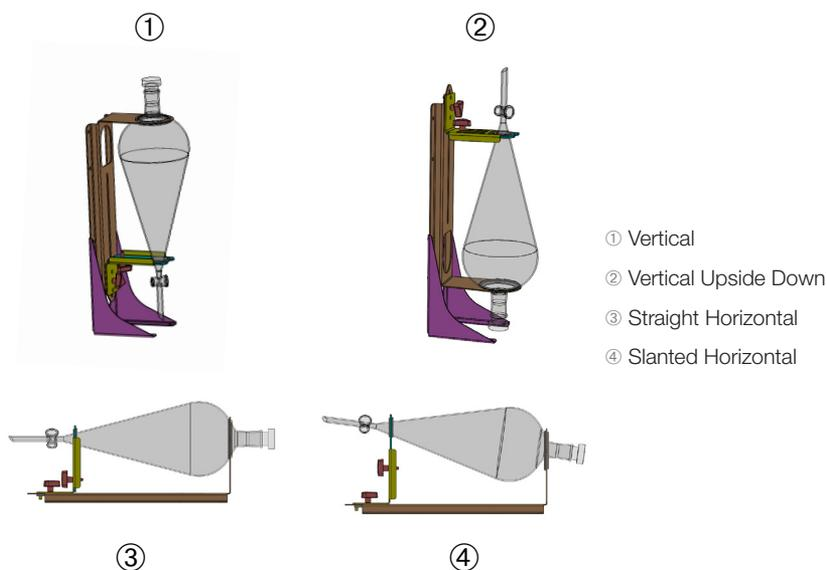

Figure 90: Separatory Funnel Clamp Mounting Positions
The horizontal position ③ in Figure 90 can be adjusted in height to obtain the slanted orientation shown at ④. Additionally, the separatory funnel clamp can be combined with the vertical stand (supplied as an accessory) to create the vertical arrangements shown at ① and ②. Also, the clamp can be installed with the funnel tap facing downwards ① or reversed to obtain the upside down configuration shown at ②.
1. Fit the separatory funnel clamp to the long end of the vertical mount, as shown in ① and ② of Figure 90.